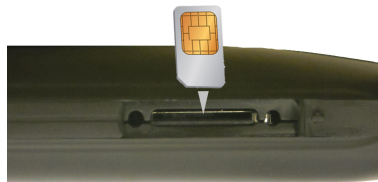

Figure 4.42: SIM card
2. With the LIVE SD off, insert the SIM card with the SIM connector facing down (see Figure 4.42).